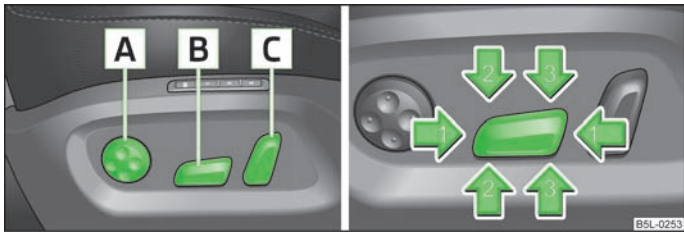

Fig. 43 Side view: Control elements for seat adjustment/switches for seat adjustment
- Press the switch **[B]** » Fig. 43 forwards or backwards in the direction of arrow 1.